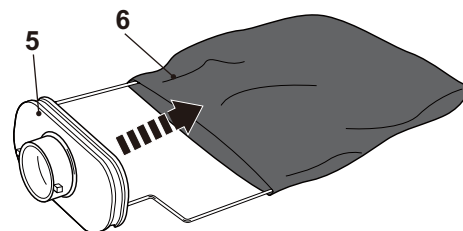

Fig. 4
2. Remove the dust bag (6) from the connector (5) Fig.4 by gently pulling on the elasticated collar and empty dust into a suitable rubbish bag.
3. Re-fit the dust bag(6) to the connector(5), ensuring that the elasticated collar is correctly locate Fig.4 and re-attach it to the product.